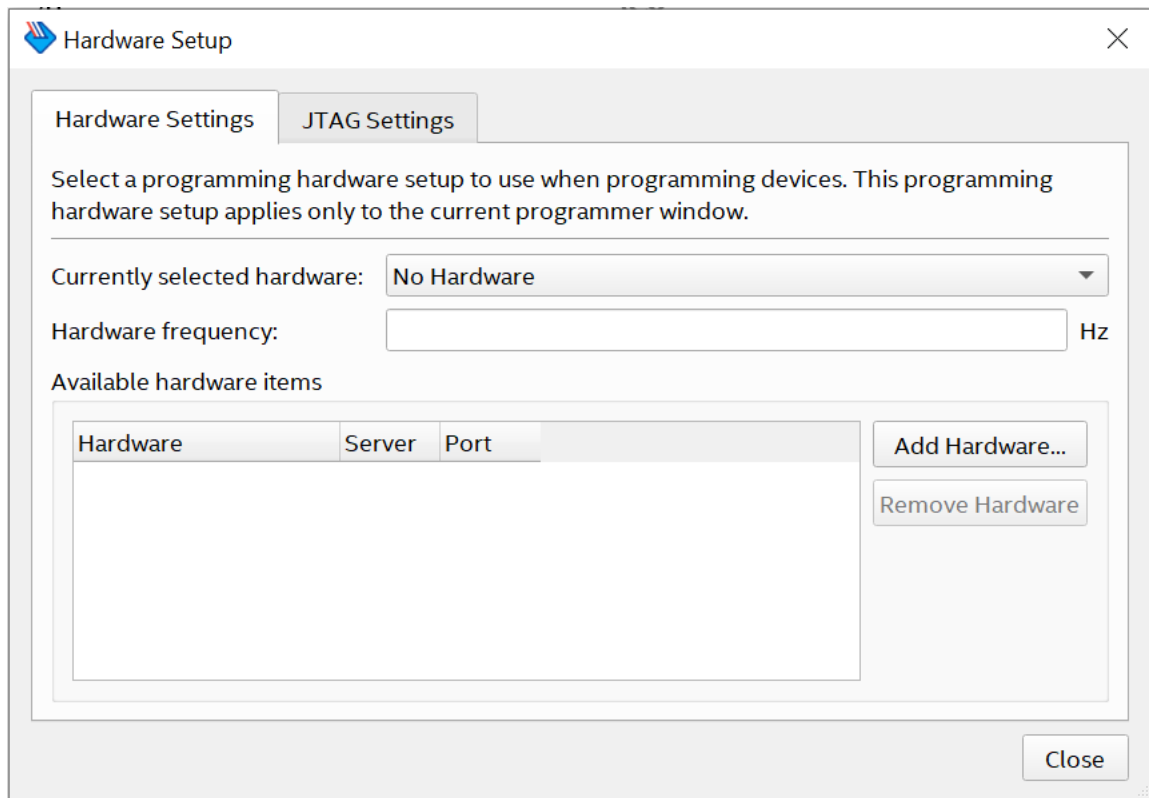

Figure 20. Hardware setup.
2. Select from the **Programmer Window > Hardware Setup**, which leads you to the window in Figure 20.